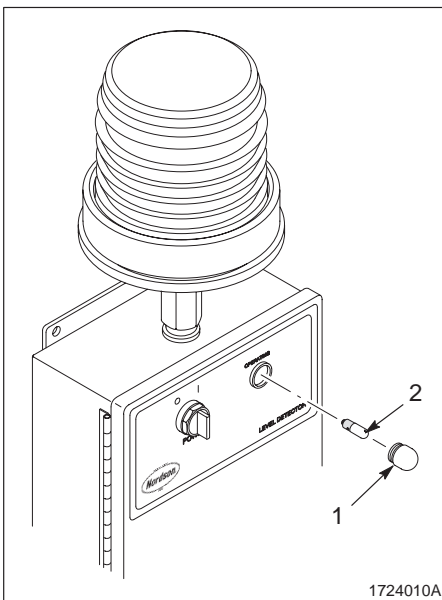

Fig. 12 Light replacement
1. See Figure 12. Remove the lens cap (1).
2. Remove the light (2).
3. Install a new light (2).
4. Install the lens cap (1). Tighten it securely.